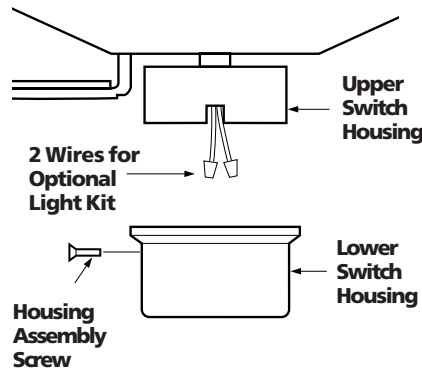

**Figure 8b - Mounting the Upper Switch Housing**
4. Turn the upper switch housing counterclockwise until the housing assembly screws are firmly situated in the narrow end of the keyhole slots as shown in Figure 8b. Install the one remaining #6-32 x 3/8" housing assembly screw into the third hole in the upper switch housing. Tighten all three screws firmly.